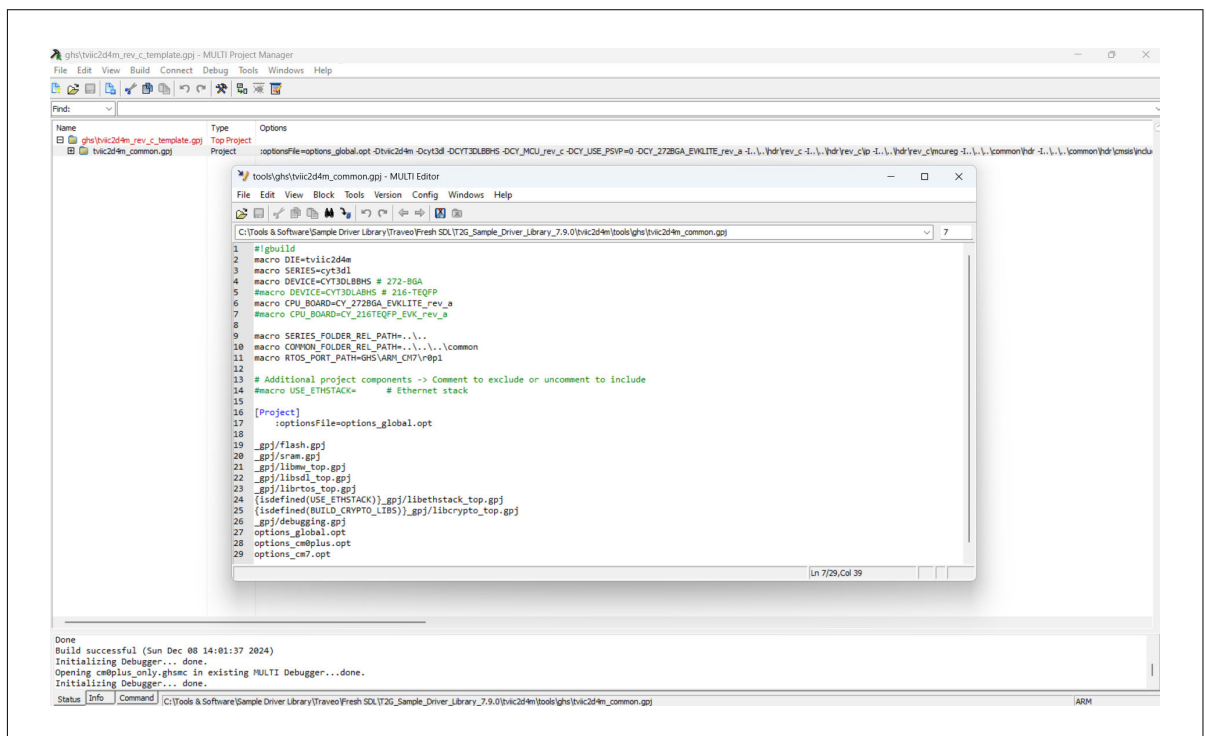

Figure 14 Setting up for the lite kit in the GHS workspace
5. In the MULTI Editor window, uncomment the macro `DEVICE=CYT3DLBBHS` and comment the macro `DEVICE=CYT3DLABHS`. Also, uncomment the macro `CPU_BOARD=CY_272BGA_EVKLITE_rev_a` and comment the macro `CPU_BOARD=CY_216TEQFP_EVK_rev_a` as shown in Figure 14. Save and close the file